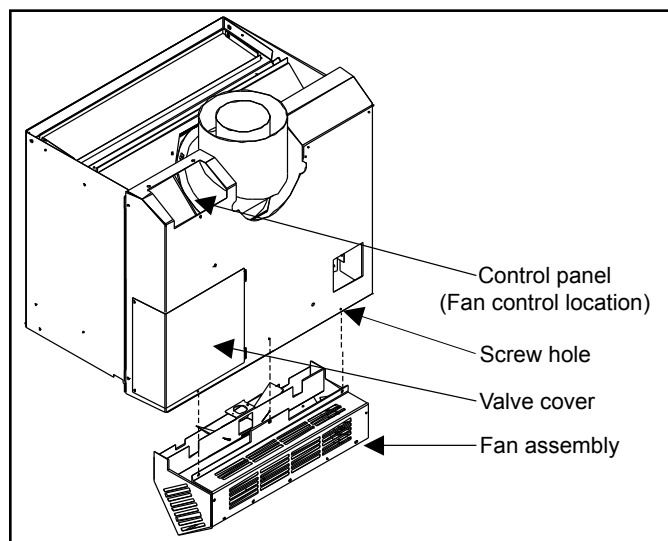

Figure 53: Optional Blower (Fan) Installation.
2. Place the fan assembly behind the unit and secure with the three screws provided, (as shown in Figure 53).